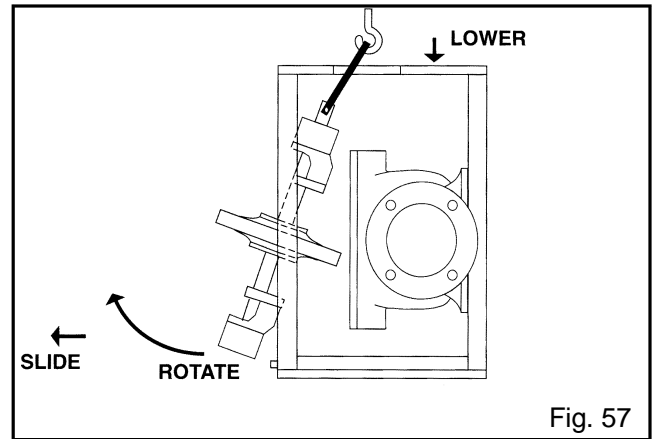

Fig. 57
17. Lower rotating element to ground by sliding outboard bearing housing away from pedestal enabling element to be set on floor with shaft in an horizontal position. (See Fig. 57)
21. On full pedestals, the lifting sling must come through hole in top plate of pedestal. (See Fig. 57)